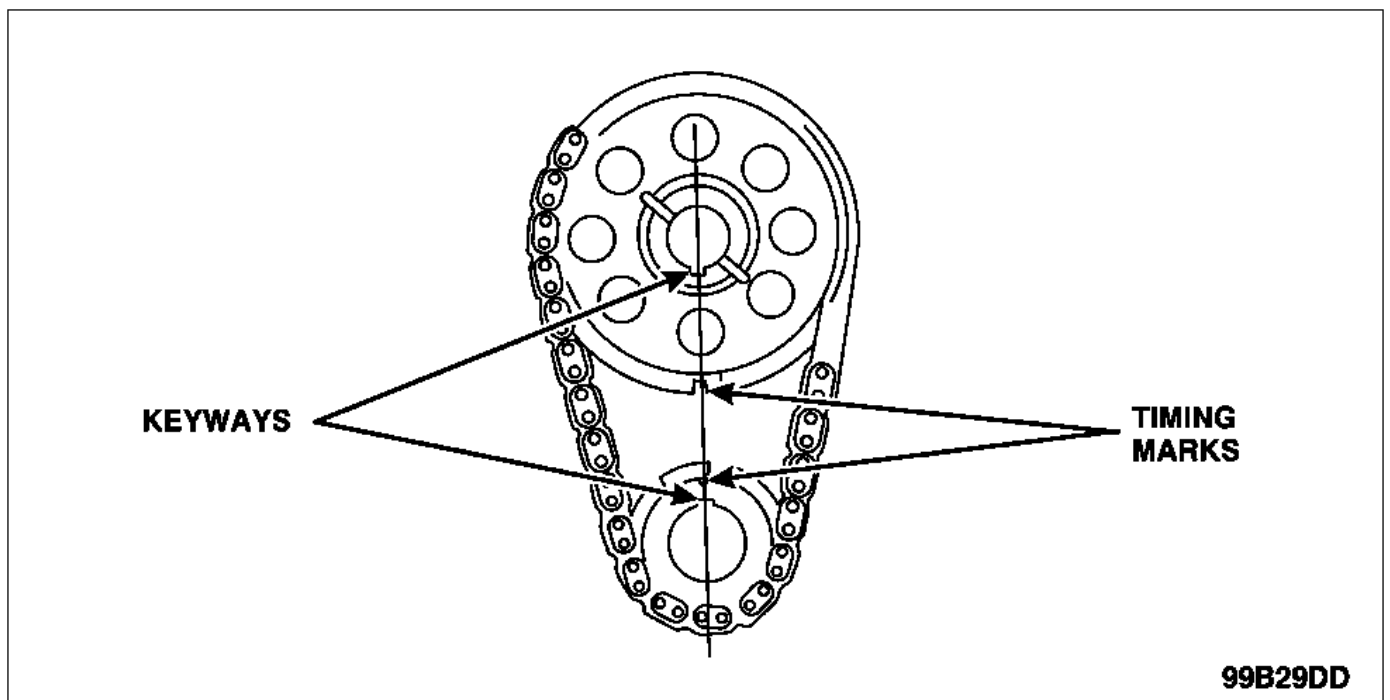

FIGURE 30
3. Make sure the timing marks and keyways are aligned. See Figure 30.